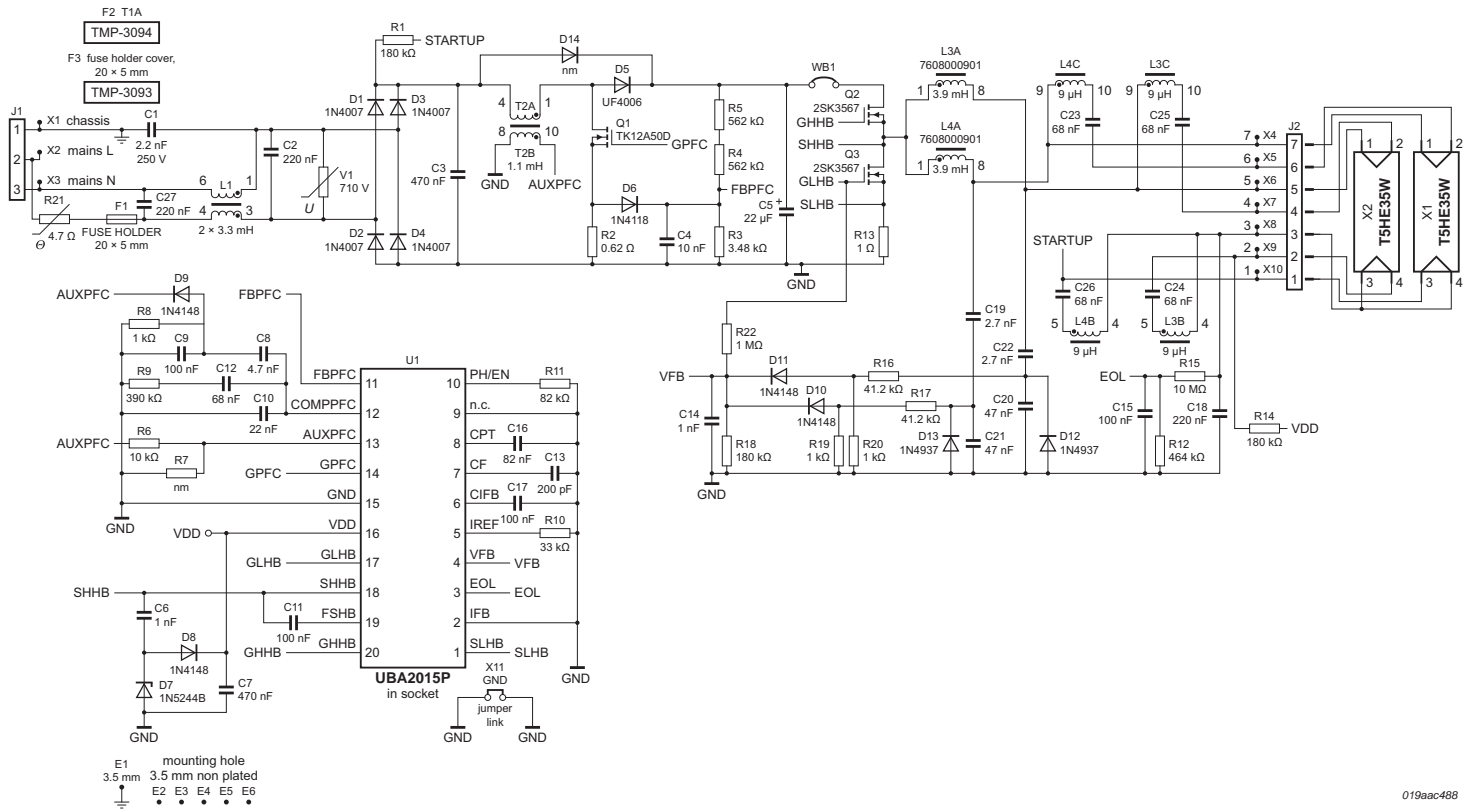

Fig 11. Schematic diagram
- Figure 11 “Schematic diagram” has been updated.